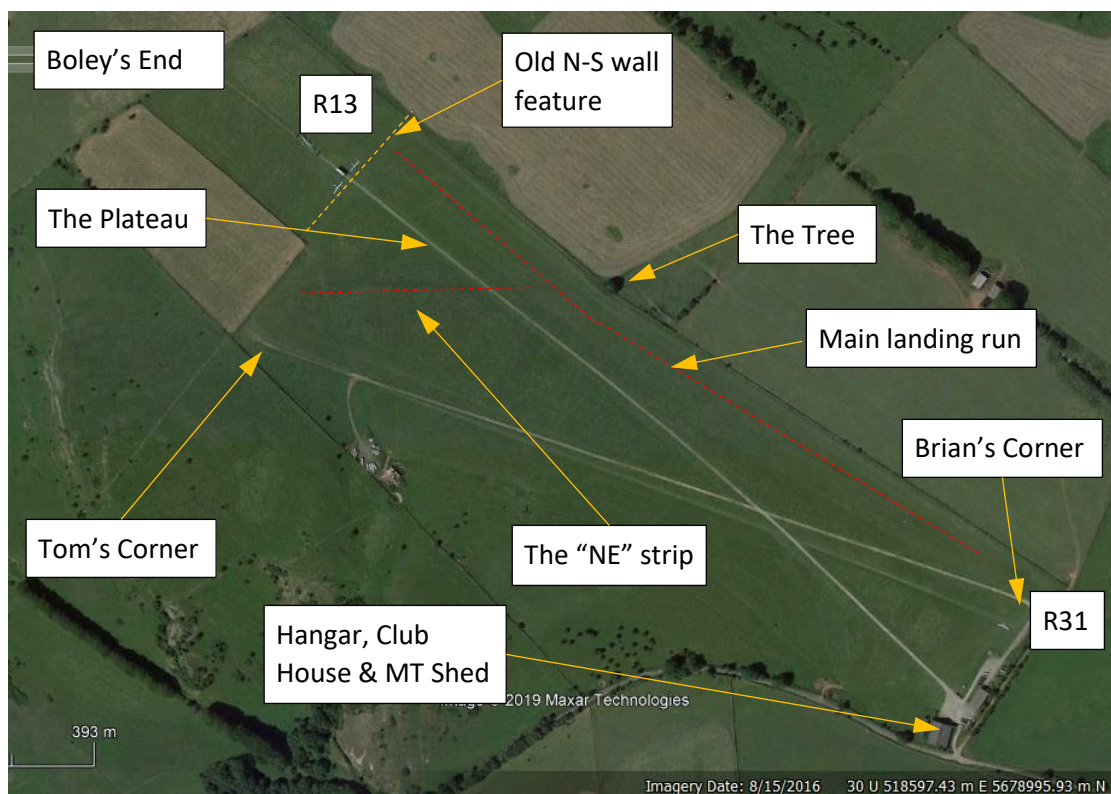

Figure 1 Some Key Features of Halesland
### 3.1.3 Airfield Landing Areas (see Figure 1)
- Easterly landing runway (R09) (see Figure 1)